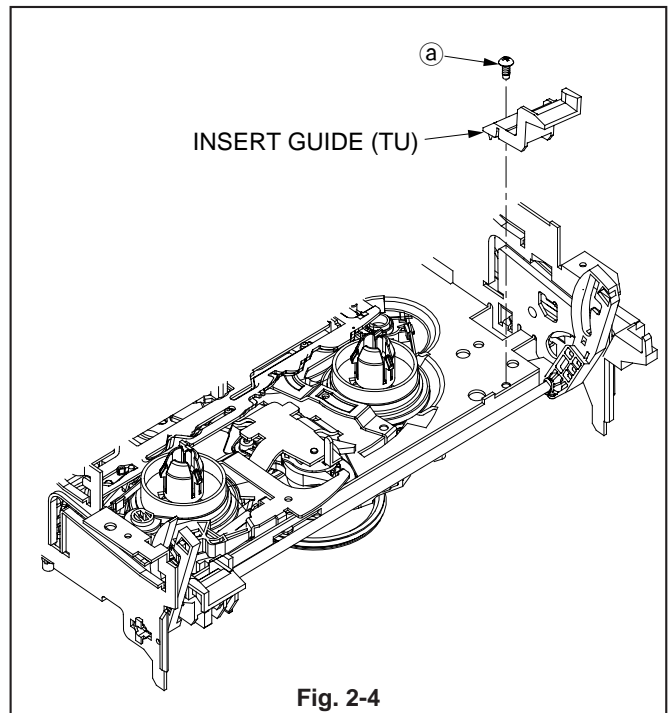

Fig. 2-4
1. Remove the screw (a) fastening the INSERT GUIDE (TU) shown in Fig. 2-4 to remove the INSERT GUIDE (TU).
1. Install the INSERT GUIDE (TU) shown in Fig. 2-4.